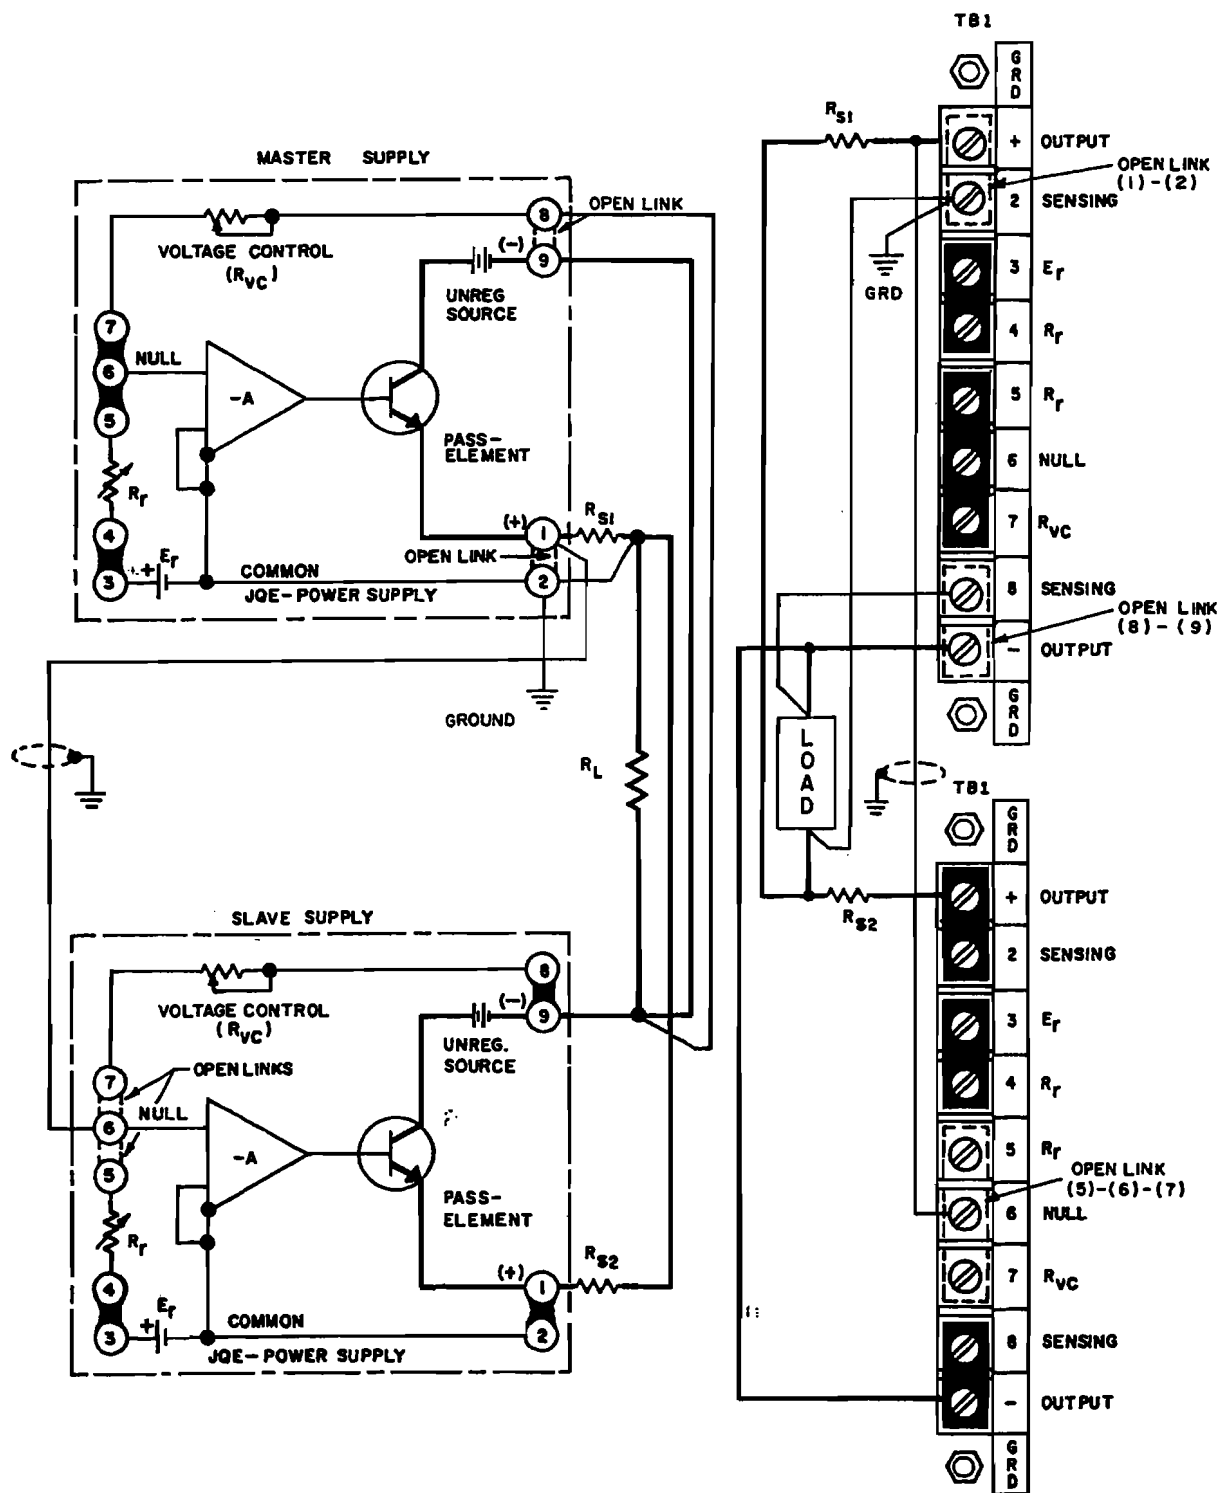

FIG. 3-15 MASTER-SLAVE PARALLEL CONNECTION OF JQE POWER SUPPLIES
3-44 MASTER-SLAVE PARALLEL OPERATION: Kepco Power Supplies may be paralleled if the output current from a single supply is not sufficient for the application at hand. With the parallel connection shown in FIG. 3-15, the total output current of the parallel supplies may be controlled from a single "Master" supply. To operate the parallel supplies in the "Master-Slave" connection, sensing resistors of equal value must be selected (R_{s1} , R_{s2} in FIG. 3-15) such that the voltage drop across them is about 0.1 to 0.25 volts at the output current of interest. The *sum* of the voltage drops across the load wire with the sensing resistors in series should *never exceed 0.5 volts* at the maximum desired operating current. If sensing resistors of the proper value are not available, the resistance of the load wires may be sufficient to establish the necessary voltage drops. In this case, the load wires should be trimmed such that *equal voltage drops* are established in the load wire from the "Master" and that from the "Slave" supply. Load wires should in general be of as heavy a wire gauge as practicable. Twisting of the load wires, as well as of the error sensing leads from the "Master" supply (although *not* shown in FIG. 3-15) is recommended.
- b) Connect supplies as shown in FIG. 3-15, keeping load and error sensing leads as short as possible. Use shielded wire for the connection from terminal (2) of the "Master" to terminal (6) of the "Slave" unit.